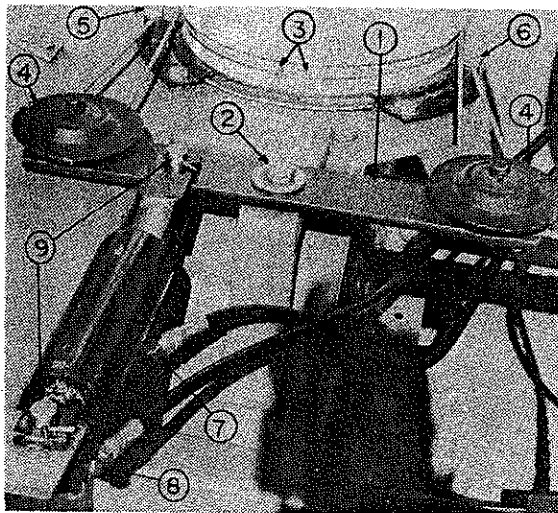

FIGURE 4
## OPTIONAL HYDRAULIC CHUTE ROTATION (FIGURE 4)
- a) Bolt hydraulic rotation arm assembly (1) to 90° bracket weldment on left hand side of chute, using a 5/8" x 2" capscrew (2), placing one flat washer on top of rotation arm and one in between rotation arm and 90° bracket weldment. Leave bolt loose enough to allow arm to move freely.
- e) Pass cable through two small holes in base of chute (3) from inside to outside, with equal lengths on both ends.
- g) Pass the two ends around pulleys (4) from inside to outside.
- k) Install cylinder using two 3/4" x 2 1/2" pins (fig. 4, item 9) and secure with cotter pins. Cylinder ports should be on underside.
- l) Connect one hose to cylinder rod end port (fig. 4, item 7) and connect one hose to cylinder base end port and connect the other ends of the hoses to the appropriate valve ports.